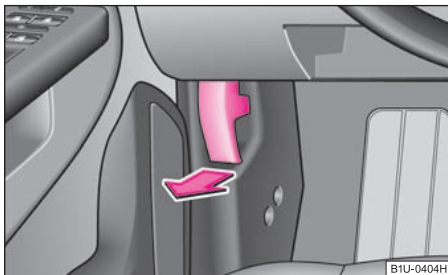

Fig. 148 Bonnet release lever
- Pull the unlocking lever below the dash panel on the driver's side ⇒ fig. 148.
- Unlock the bonnet ⇒ fig. 148.